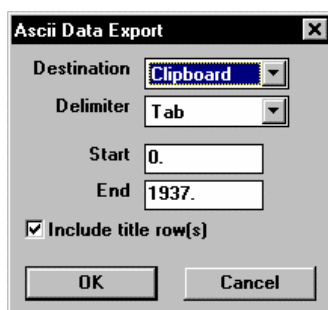

Figure 6.11 ASCII Data Export dialog box.
3. Select menu Edit|Copy Data Window to Clipboard or type <Control + C>. This will attach all data to the clipboard. (Alternately, File|Export Data to ASCII, will achieve the same result, except that this menu function allows copying to a file or clipboard, by station range, as shown in Figure 6.11).